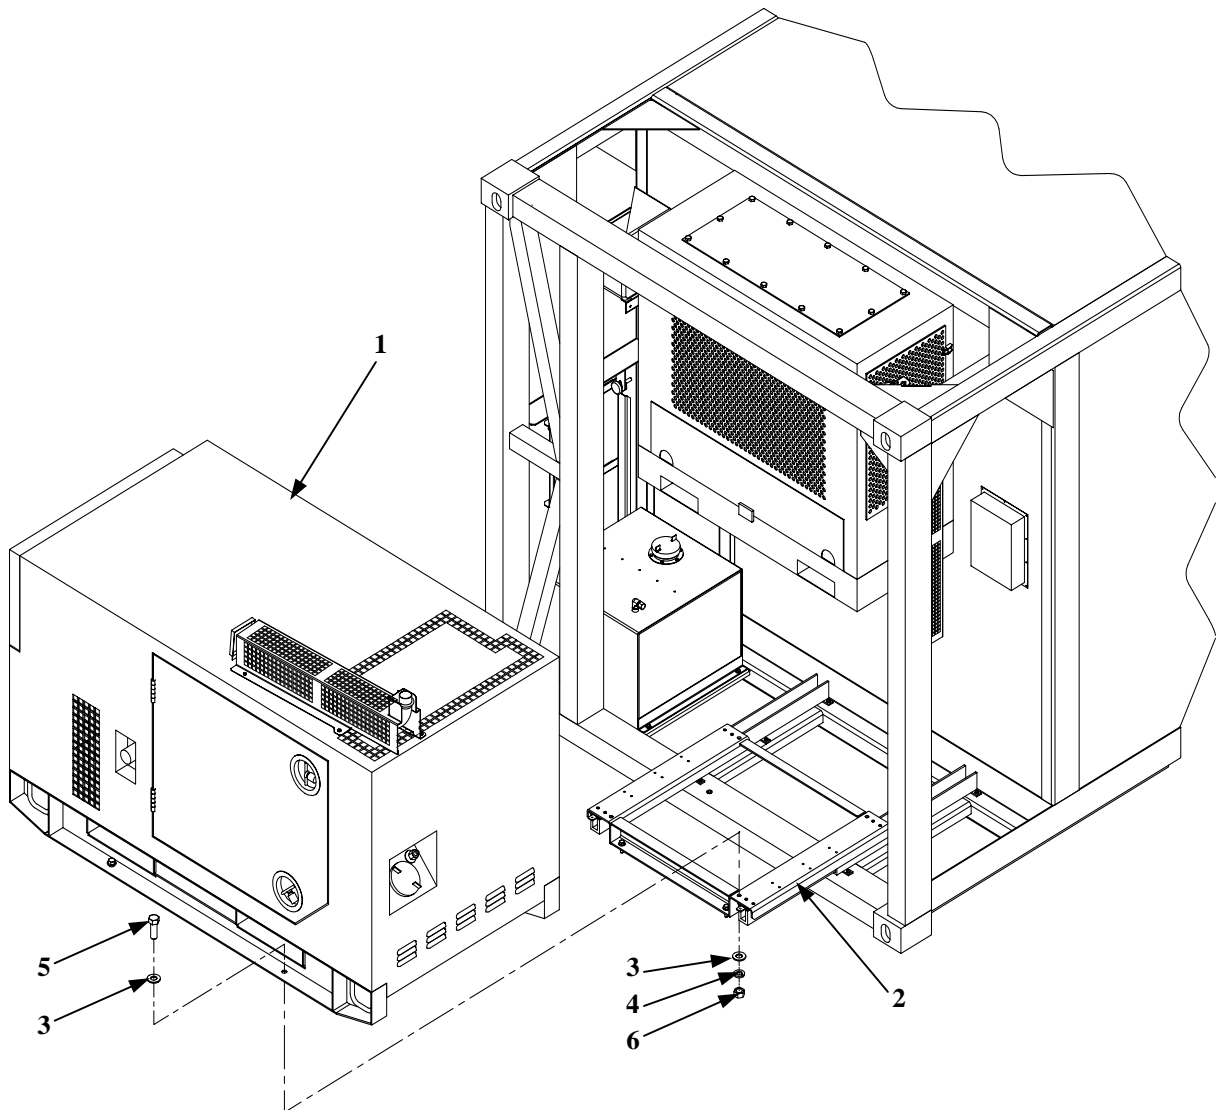

Figure 3. Generator Set Installation (Sheet 1 of 4)
1. Using a forklift, position generator set (1, Figure 3) on frame slide rails (2).
2. Align mount holes in generator set (1) with mounting holes in generator set slide (2).
3. Install eight flat washers (3), four lock washers (4) (Item 31, WP 0081 00), bolts (5) and nuts (6) to secure generator set (1) to slide rails (2).
4. Connect power cable (7, Figure 3) to generator set (1) as follows:
- a. Open terminal door (8). Insert power cable (7) through weather boot (9) into terminal compartment.
- b. Remove fastener tool (10). Raise retention clips (11) on each terminal.
- g. Use fastener tool (10) to tighten nuts on each terminal.
- h. Clip retention clip (11) over each terminal and return fastener tool (10) to storage position.
- i. Close terminal box door. (8). Secure weather boot (9) around cable (7).